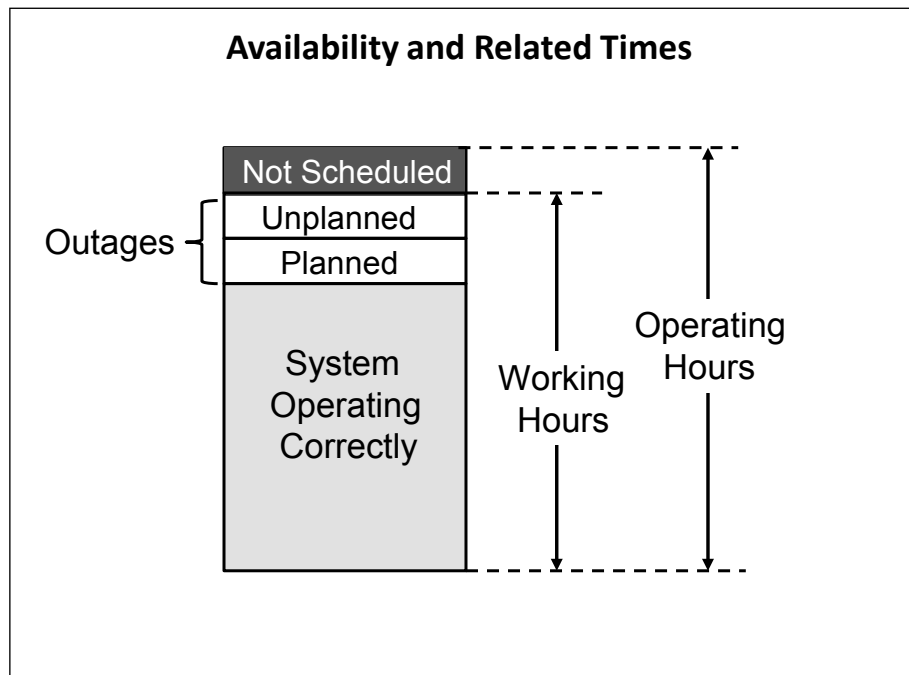

Figure 2 Visual Availability: Definition of Times
*Availability*, to continue the car analogy, is how long the car is in working order and how long you can travel before it fails, measured operational and usage times respectively (see Figure 2). These you will mentally note as the time between failures and how long it takes you to get the car back on the road.